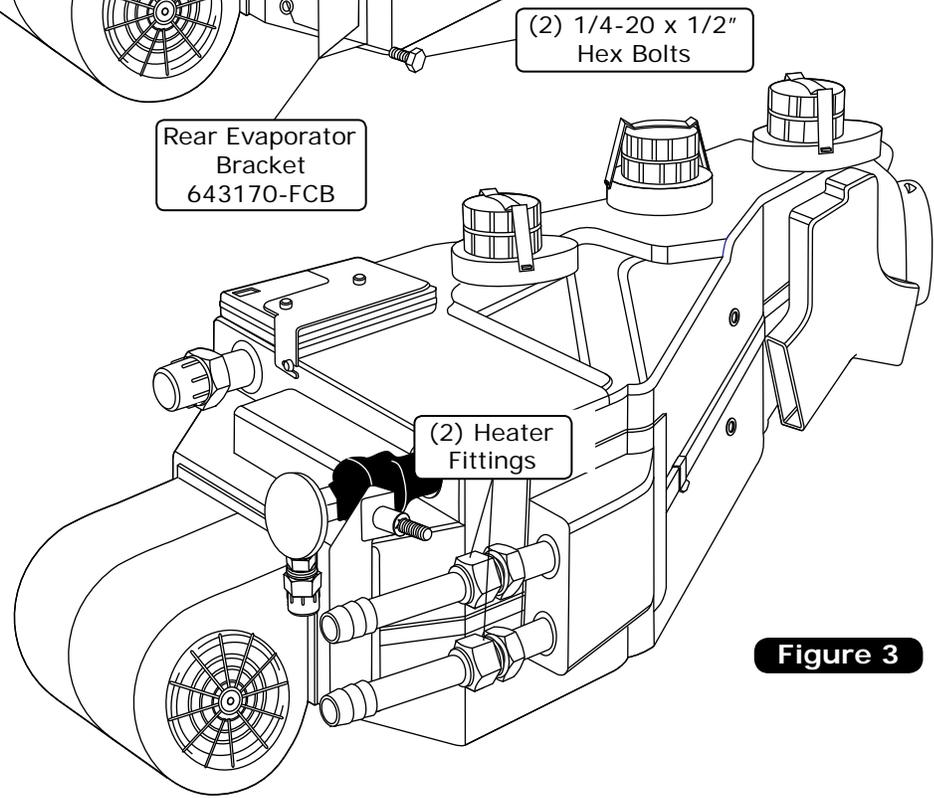

Figure 3
2. Install the (2) heater fittings onto the evaporator with properly lubricated O-rings as shown in Lubricating O-rings, Page 19 and Figure 3, Page 16.